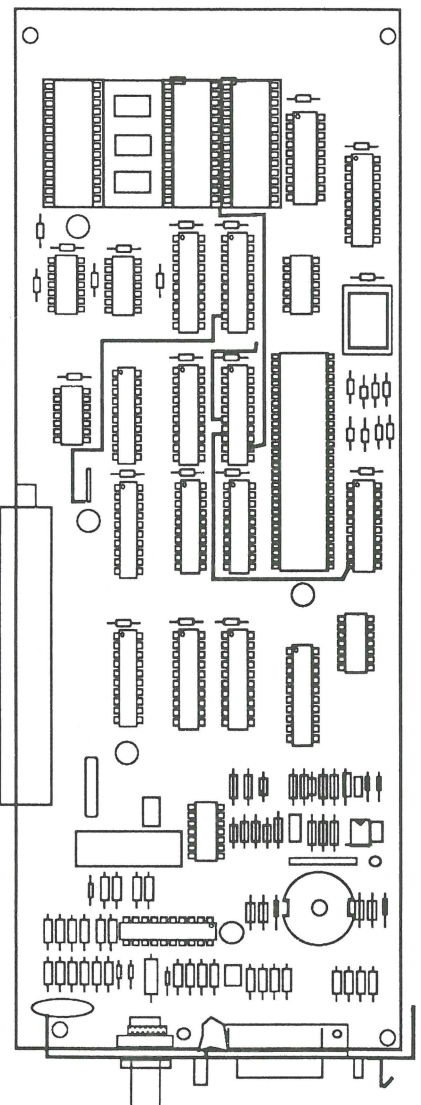

FIGURE 1
IPL.3 EtherTalk Interface Card (Figure 1)
□ ETHERTALK INTERFACE CARD (Figure 1)